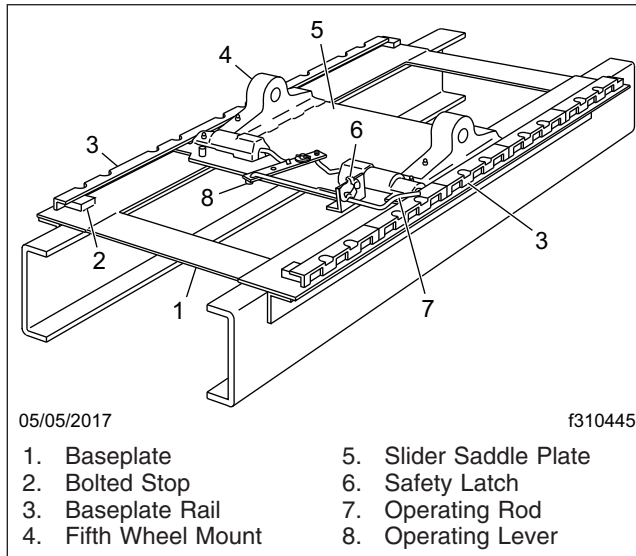

Fig. 18.14, Sliding Fifth Wheel Manual Release, (Holland Simplex)
- 2.2 **Holland:** Pull the operating rod out. Make sure both side plungers have released. See Fig. 18.14.